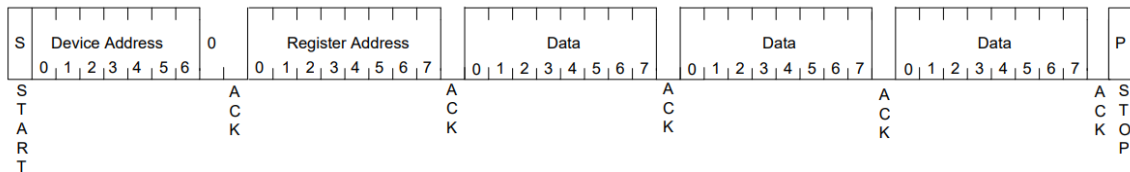

Figure 12: I²C Bus 3-byte Data Write
Therefore, the next byte transmitted by the master is the register address and will be written into the address pointer of the SY7T612. After receiving another acknowledge (A) signal from the 78M6610+PSU the master device will transmit the data byte(s) to be written into the addressed memory location. The data transfer ends when the master generates a STOP (P) condition. This initiates the internal write cycle. The example in Figure 12 shows a 3-byte data write (24-bit register write).